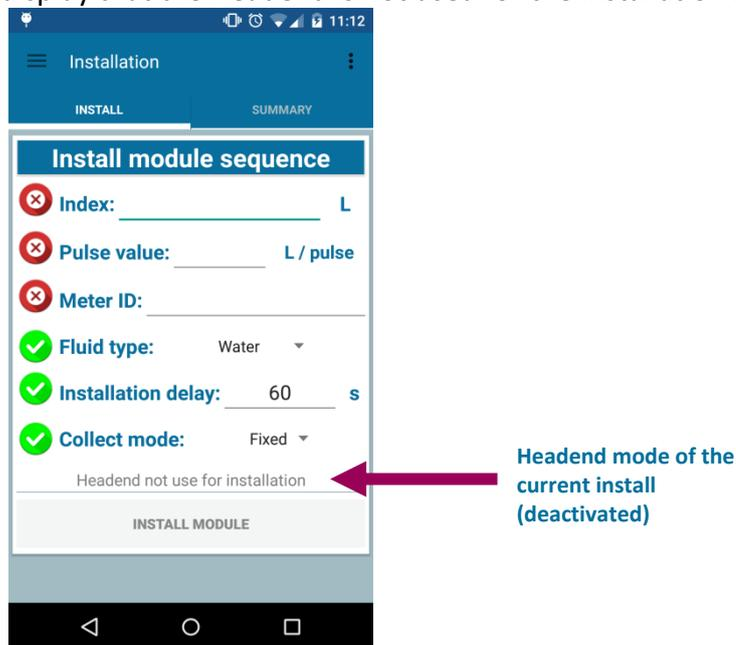

Figure 16: Headend not use for installation label
- Check on the display that the Headend is not used for the installation (see Figure 16)